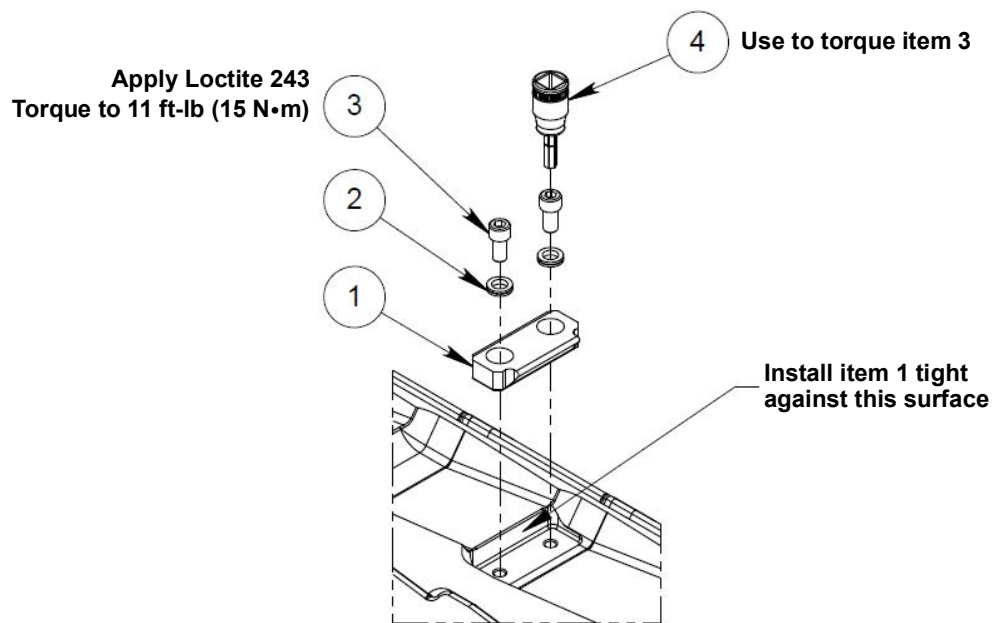

Figure 5
- Refer to Figure 5 for the assembling detail.